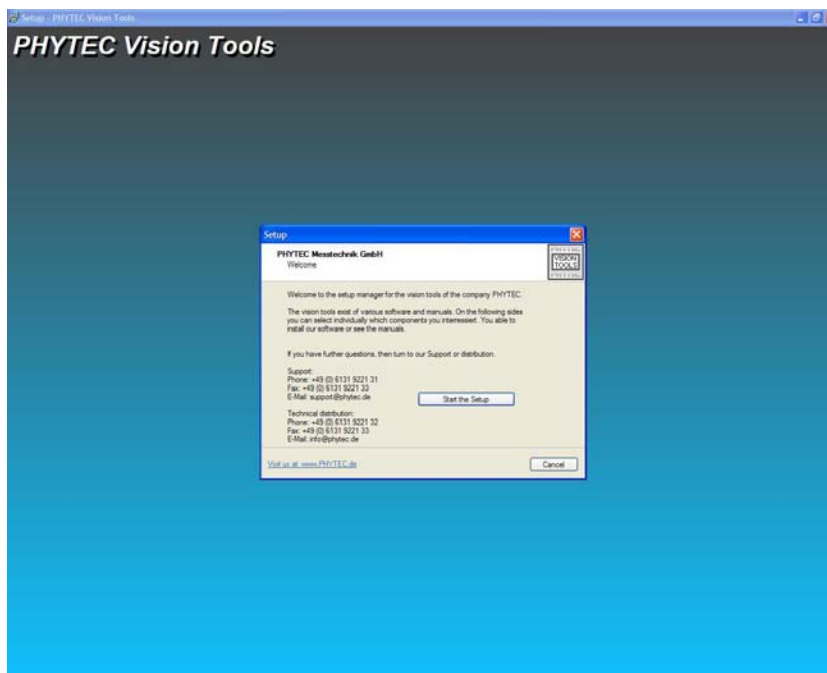

Figure 25: PHYTEC Installation Menu
- Select the *pciGrabber* from the installation menu that will appear (see Figure 25).